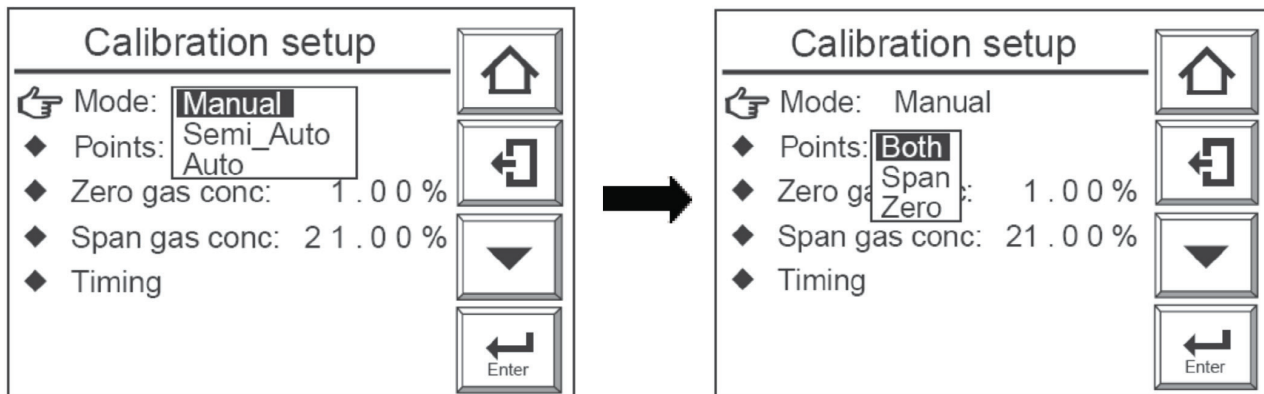

Figure 8.3
- 3) Then select **Calibration setup** to display the Calibration setup display as Figure 8.3 shows.